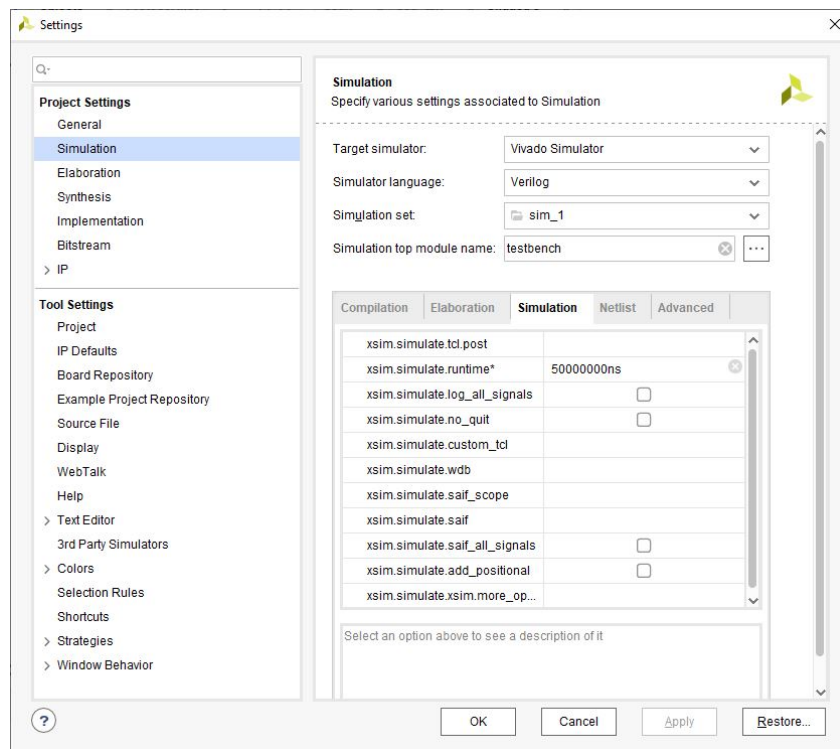

Figure 10: Setting simulation run time in simulation settings
- 3.7 Select the **Simulation** tab, and set the **Simulation Run Time** value to 50,000,000 ns (or 50 ms) and click **OK** as shown in **Figure 10**.